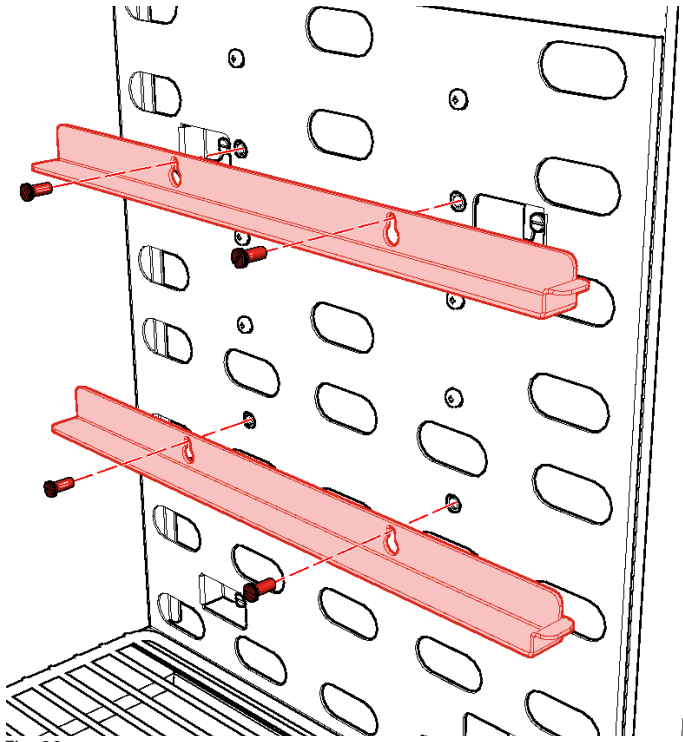
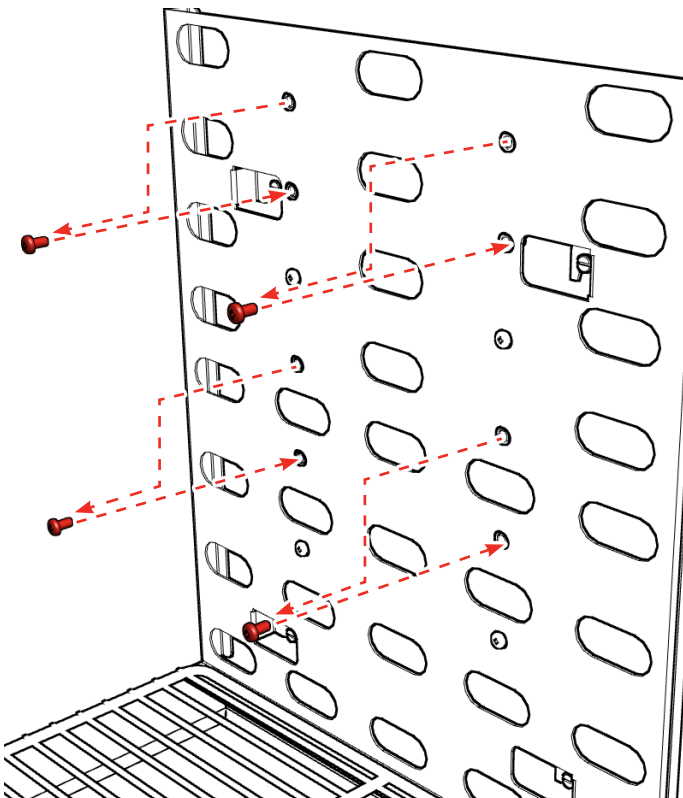

Fig. 29
Fig. 30
2. Remove shoulder bolts securing shelf rails to interior walls of freezer (Fig. 29). Set rails aside. Remove pre-installed screws at desired shelf height and replace with shoulder bolts (Fig. 30). Install screws into holes at previous shelf location.